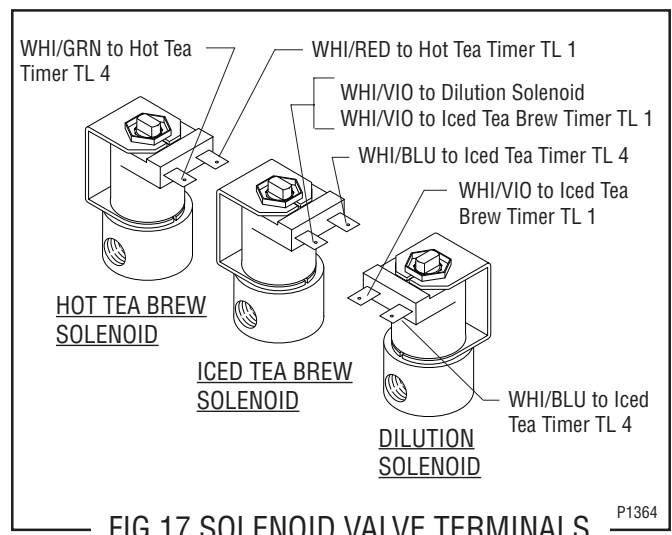

FIG. 17 SOLENOID VALVE TERMINALS P1364
10. Refer to Fig. 17 when reconnecting the wires.